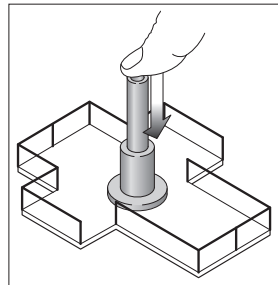

Figure 10. Arming launcher
1. Suspend the rocket from the crane's magnet and press the launching mechanism down until it locks as illustrated in Figure 10.